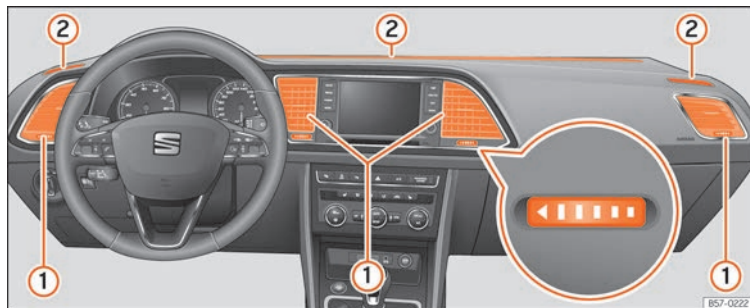

Fig. 185 On the dash panel air vents.
» Fig. 185 ① should remain open.